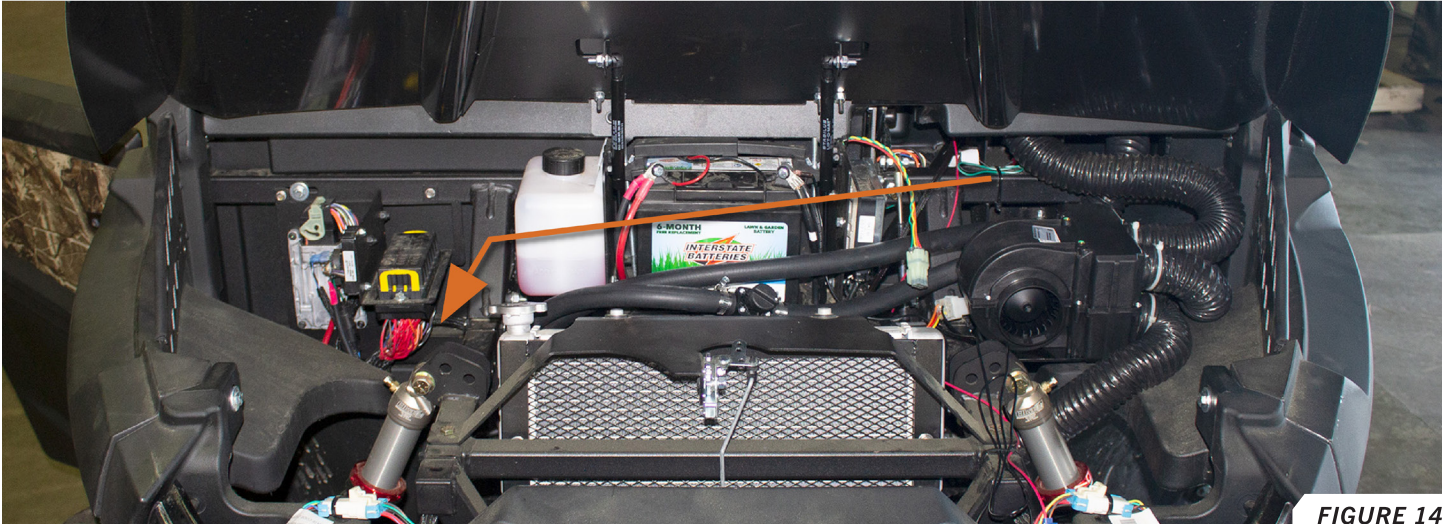

FIGURE 14
35. Route the provided radiator hoses to the passenger side wheel well, ensuring the hoses do not interfere with steering, suspension, or hood components. **FIGURE 14**